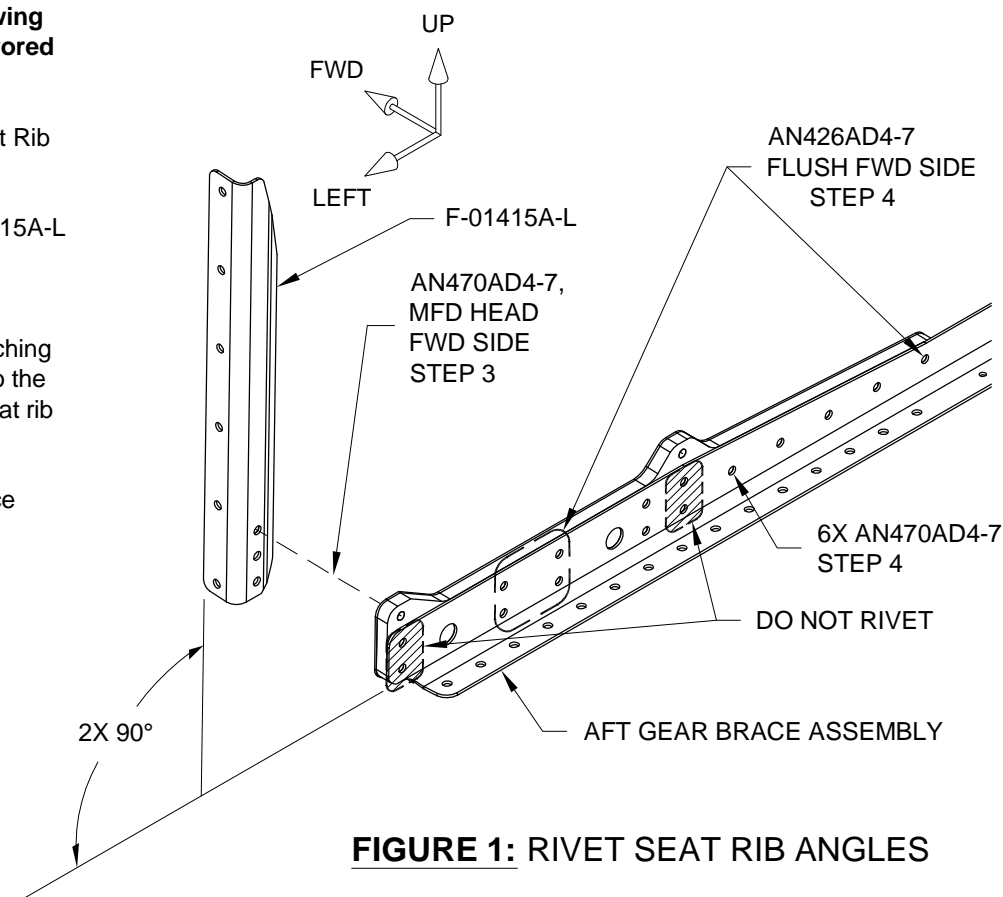

FIGURE 1: RIVET SEAT RIB ANGLES
NOTE: Refer to Figure 1 for the following steps. Call-outs on this page are mirrored about the aircraft centerline.
Step 4: Rivet together the Aft Gear Brace Assembly. See Figure 1 for exceptions.